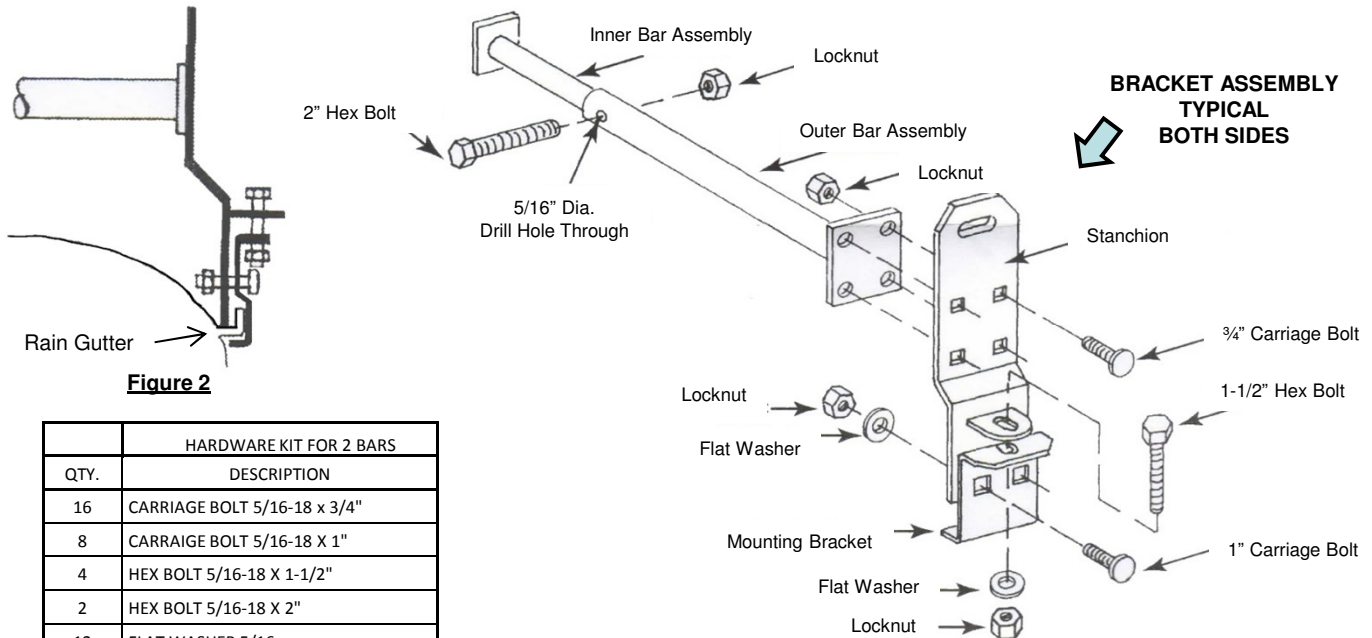

Figure 1
- Assemble INNER and OUTER bar assemblies to stanchions using the 3/4" Carriage Bolts and locknuts, see figure 1.
- Assemble the MOUNTING BRACKETS to each STANCHION using (2) 1" Carriage Bolts, and (1) 1-1/2" hex bolt with flat washers and locknuts as shown.